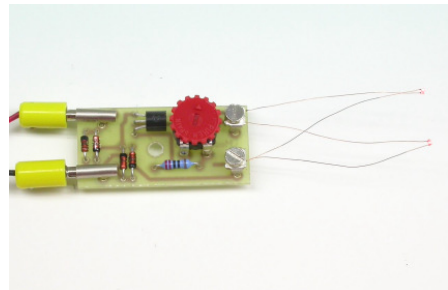

figure 2: How to connect the component
4. At its input side, the component is equipped with slide-on receptacles that fit with the small banana plugs commonly used in the model train world. The usual current supply with a yellow and brown wire is sufficient. The polarity does not matter, as symbolized by the two yellow plugs in figure 2.
5. At the output side, the component is equipped with screw clamps that accommodate even the smallest wires. Figure 2 shows very well that our smallest LEDs with their 0,1 mm thin wires can be connected without any problems. This has the advantage that for the installation from below your model train facility you do not have to do any soldering – overhead soldering can be quite dangerous due to solder dripping down.
13. As said before, with this component you can operate any LED, for example also such ones that are already built into lamps or other places. The advantage you get from this is the possibility to regulate the brightness and the constancy of the brightness. You do not need things like a multiplier or a protecting diode. You can connect the LED with its two lead in wires directly and without the need for any further parts to the output of the component, see figure 2 and point 5.